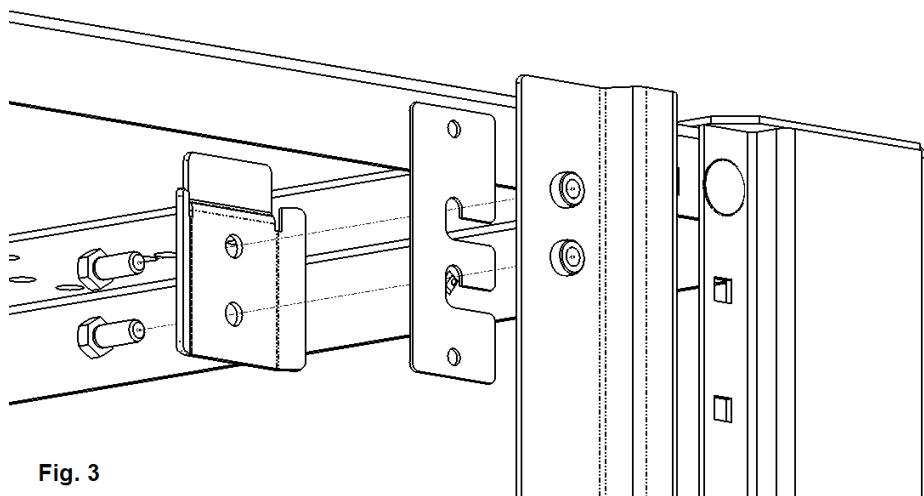

Fig. 3
3. Attach a clamp bracket and spacer to the top of the rail as shown in figure 3.